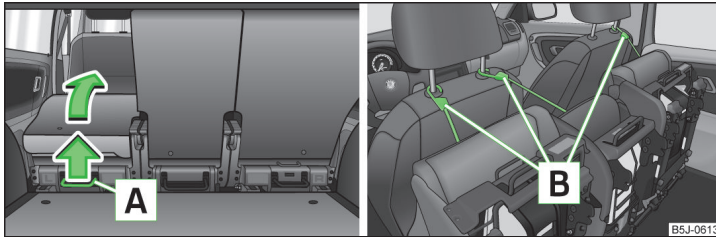

Fig. 58 Fold seat fully forwards/lock folded forward seats
- Pull lever **A** » Fig. 58 up and fold the seat forwards fully.
- Secure the folded forward seat with the aid of the fixing belt **B** to a guide rod of the head restraint in the front seat » Fig. 58.